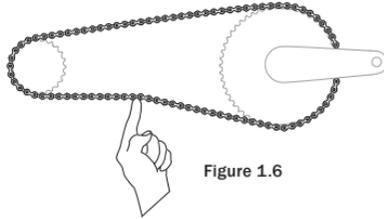

Figure 1.6
- Coaster brake: There should be between 6-12mm (0.25-0.50 in) total vertical movement in the middle of the chain (Figure 1.6).